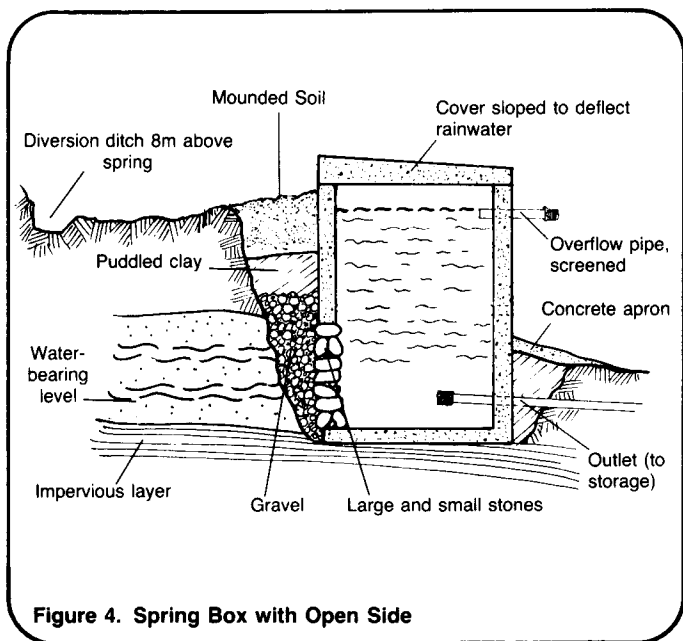

Figure 4. Spring Box with Open Side
prepare a good solid base. Figure 4 shows an example of gravel and stone placed between the spring box and the spring.
1. Place the spring box in position to collect the flow from the spring. If the flow comes from a hillside, the back of the spring box will be open. Stones should be placed at the back of the box to provide support for the structure and to allow water to enter the spring box. Figure 4 shows the placement of open-jointed rock in a completely installed spring box on a hillside. On level ground, be sure that the spring box has a solid foundation of impervious material. Place gravel around the box or in the basin so that water flows through it before entering the box.
3. Be sure that the area where the spring flows from the ground is well lined with gravel, then backfill the dug out area with gravel. The gravel fill should reach as high as the inlet opening in the spring box so that the water flowing into the structure passes through gravel. In Figure 4, the gravel layer reaches the same level as the open stone wall. For spring boxes on level ground, gravel backfill is unnecessary.